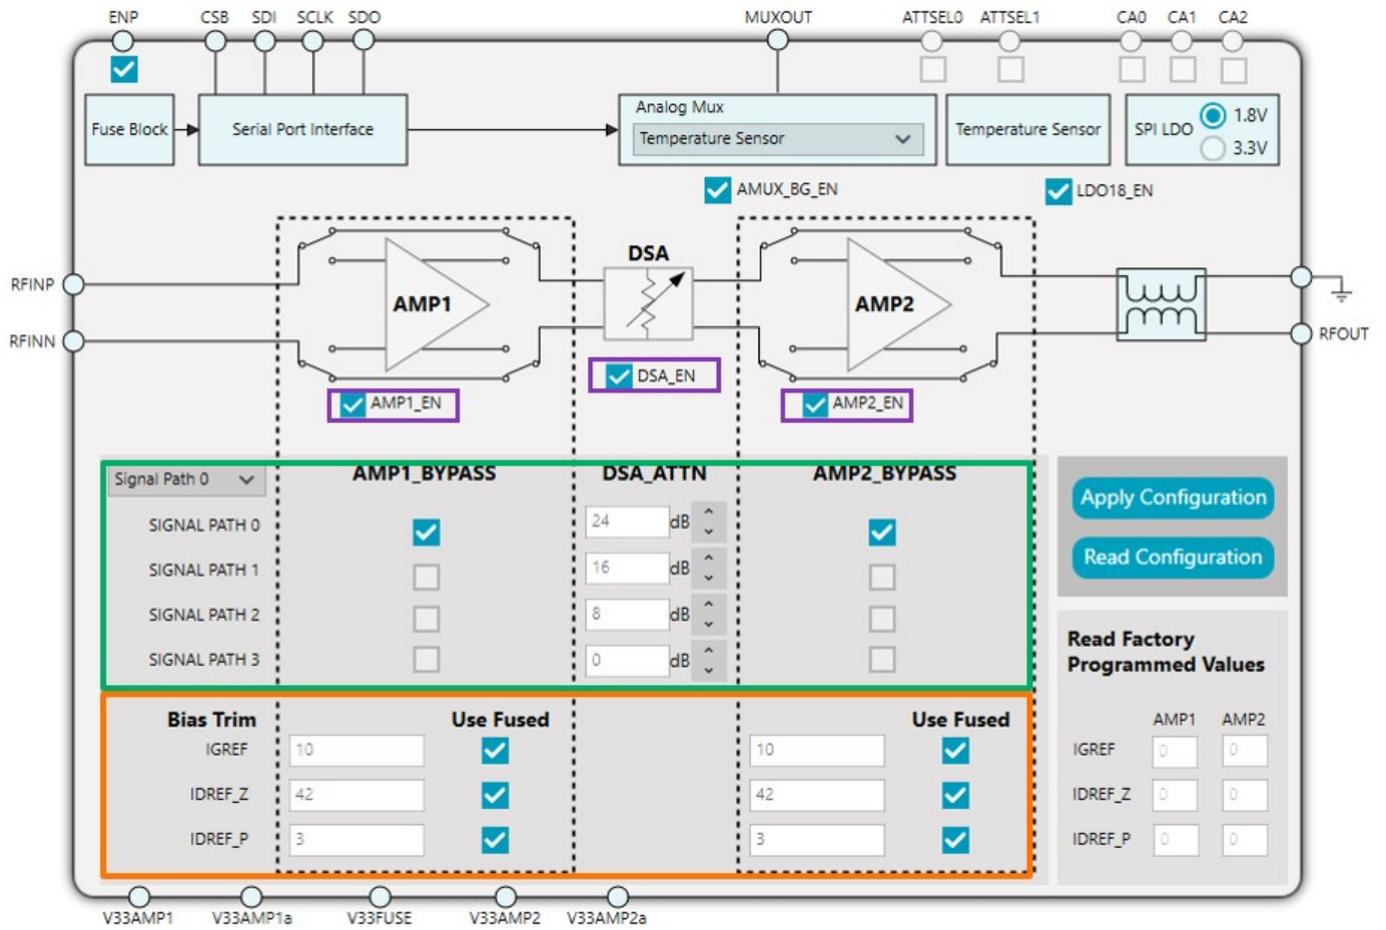

Figure 6. ADL6331 IC Level View (ENP Set to High)
5. Enable each block of AMP1, AMP2, and DSA. Configure the four RF preconfigurations by selecting the AMP1 and AMP2 bypass modes, as well as setting up the DSA attenuation levels. Use default settings for the bias trim with **Use Fused** boxes checked (see Figure 6).